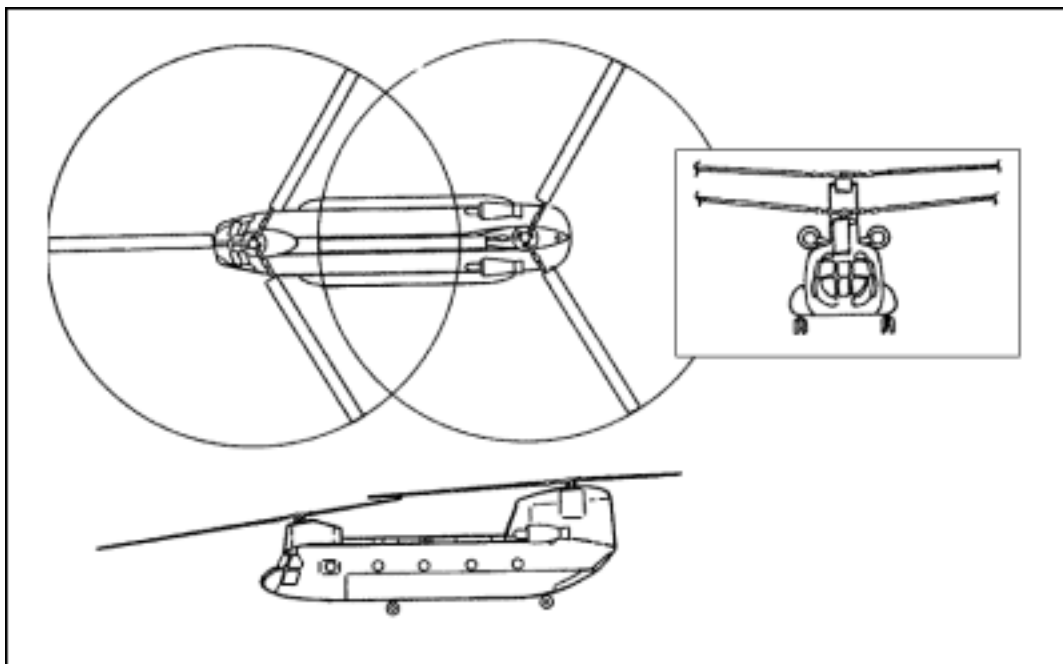

Figure B-8. CH-47 B/D (Chinook).
- b. **CH-47 B/D Chinook.** Table B-8 shows specifications for the CH-47B/D Chinook; Figure B-8 shows it from three angles: